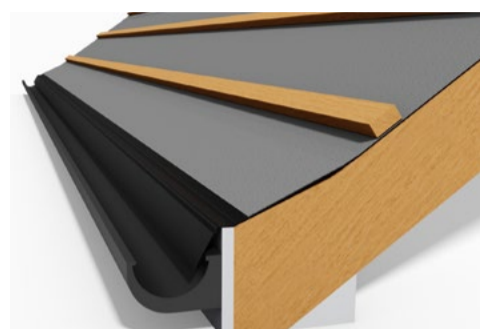

fig 1: Eaves detail
2. Lay Danelaw LR150 printed side facing outwards, parallel to the eaves with the bottom edge overlapping the support tray (fig. 1) or 5U membrane by 150mm. The edge of the Danelaw LR150 roof tile underlay should not be exposed to UV once the first course of tiles or slates are installed.